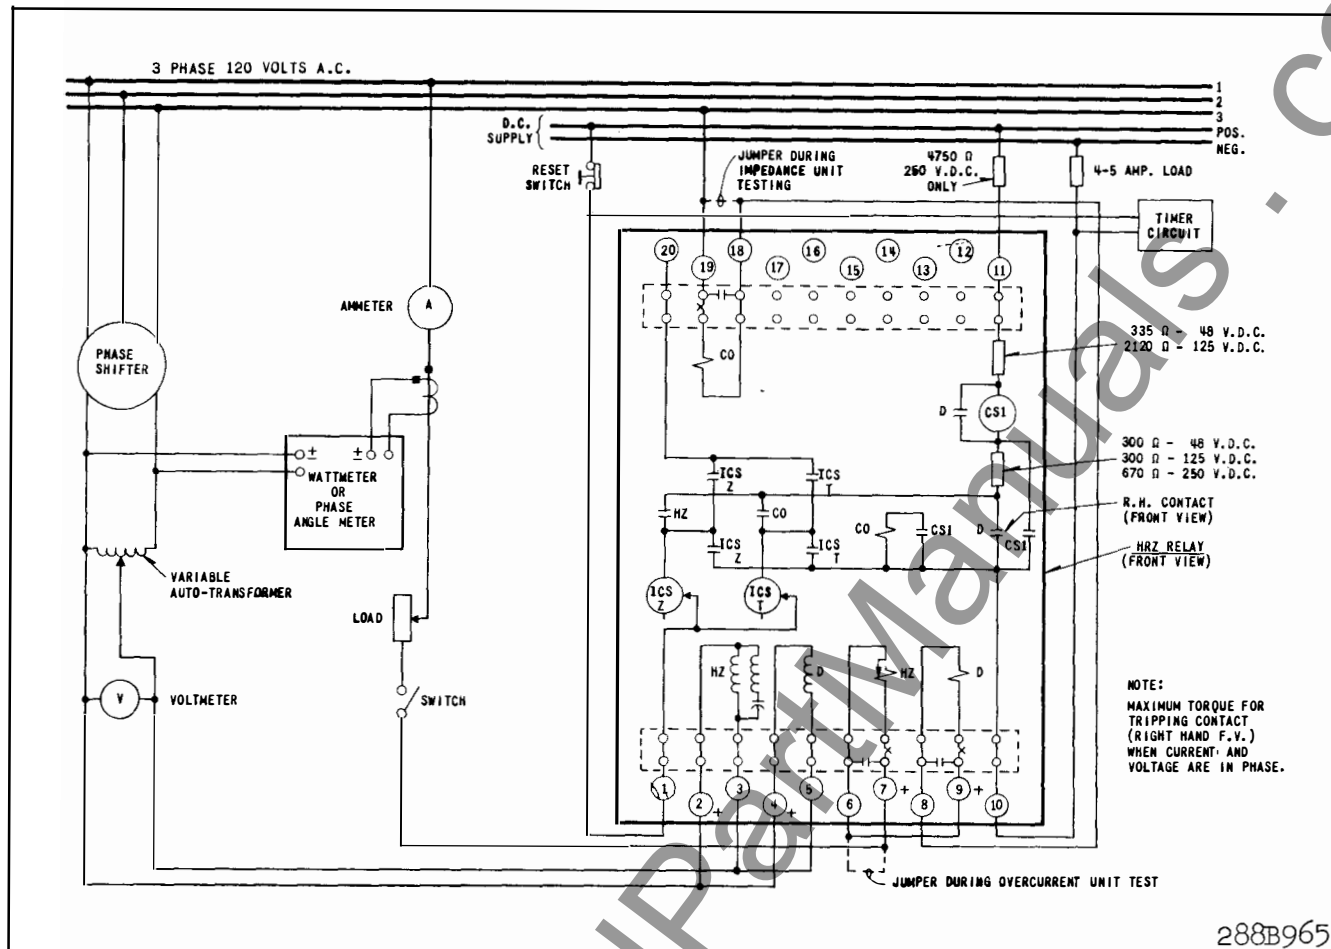

Fig. 13. Diagram of Test Connections for the Type HRZ Relay in the Type FT32 Case.
Connect per Fig. 13. Set in 13 tap and 1.6 core screw. Energize with 35 volts and minimum tripping current at 60° , current lagging voltage. Operation should occur at approximately 16.8 amperes. Then, set core screw at 0.8 and repeat test. Operation should occur at approximately 33.7 amperes.
Connect per Fig. 13. Set in 20.8 tap and 1.4 core screw. Energize with 35 volts and minimum tripping current at 60° , current lagging voltage. Operation should occur at approximately 12 amperes. Then, set core screw at 0.8 and repeat test. Operation should occur at approximately 21.1 amperes.
Apply 2 amperes and 10 volts, in phase, with the connections of Fig. 13 and see that the right-hand contact closes positively. Reverse the current direction and see that the left-hand contact closes positively.
Check the coordination of the directional unit and impedance unit, as described below, with connections per Fig. 13. Set the impedance unit on the maximum tap and scale setting. Apply 115 volts a-c to the impedance and directional unit potential coils and pass 5 amperes at unity power factor through the current circuit. Check the trip circuit to see that it is not completed when the voltage on the impedance and directional units is suddenly applied or interrupted. Do not interrupt the current circuit. Make several such tests. The trip circuit should be connected with the loading resistor for this test. This coordination test has been described for the most severe conditions. Consequently, an occasional failure to coordinate may be tolerated, since, in ser-
With the relay connected per Fig. 13, apply 110% of rated d-c voltage and see that the CS1 unit operates. Then apply 70% of rated d-c voltage, close the left-hand directional contact, and see that CS1 resets. Now suddenly apply 50 volts, 10 amperes, in phase, to the directional unit, with rated d-c voltage on CS1 circuit, and see that the CS1 contacts close positively.
Connect the relay per Fig. 13 and apply current and voltage of the approximate magnitude and phase angle, which are encountered by the impedance unit during faults. Observe the relay for proper functioning. Check the timing of the (X) unit at one or two currents, which are critical for the specific application. Check the pickup point of the instantaneous trip, when used.
The beam should be balanced as follows. Connect the relay as shown in the test diagram, Fig. 13. With any tap and scale setting, check the impedance measured by the relay with 35 volts potential restraint. Then apply 5 volts restraint and adjust the balance weight on the beam until the beam just trips with 1/7 of the current required to trip with 35 volts restraint. Make certain that the stop on the voltage side is absolutely clean, otherwise the impedance at which the beam trips may be affected, particularly at the low voltages. The stop can be easily cleaned by drawing a piece of clean white paper between the beam and the stop while the beam is firmly pressed down.